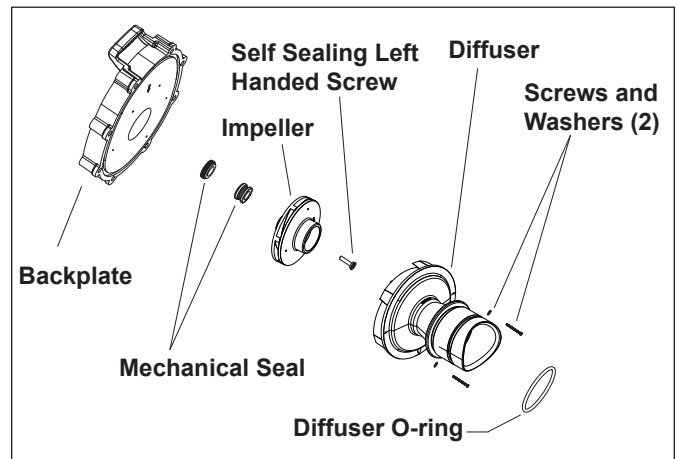

Figure 12. Backplate, Impeller, Diffuser, and Mechanical Seal Exploded View
**NOTE** Refer to Figure 12 for an illustration of the location of the mechanical seal and impeller.